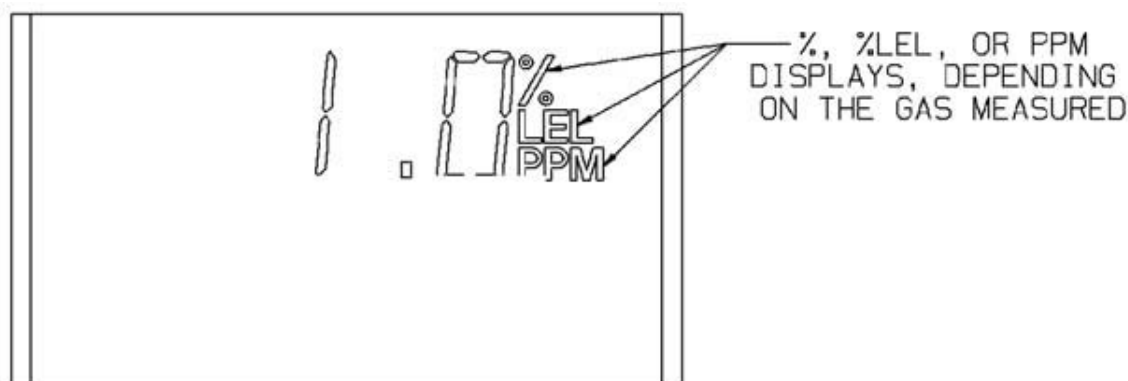

Fig. 22 LCD Gas Concentration Display
- After the 30-second countdown, observe that the gas type and gas concentration (ppm, % Gas, or % LEL) alternately flash (Fig. 22).